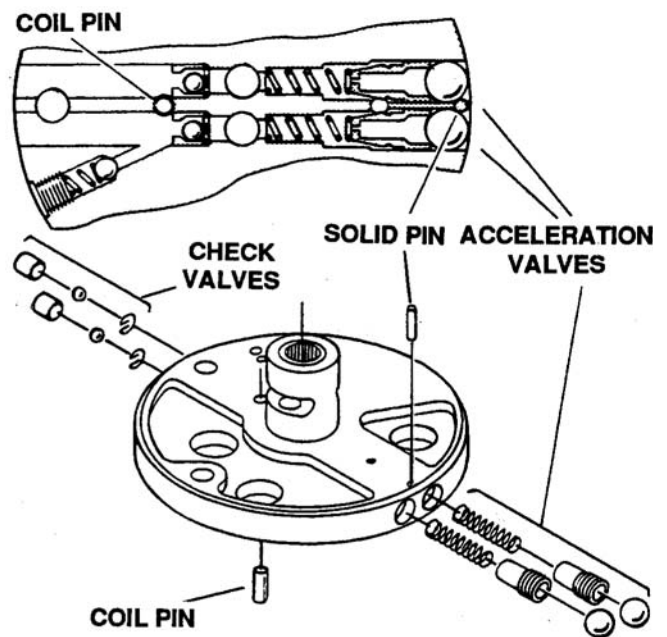
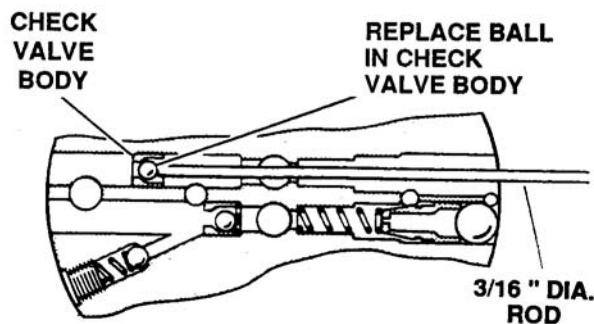

Figure 6-94. Removing Acceleration Valves
Figure 6-97. Driving Check Valve Body and Ball From Pintle Housing
- m. To remove the acceleration valves, start by removing the solid pin from the pintle housing. See Figure 6-94.
- p. Press or drive coil pins from pintle housing. See Figure 6-94. Replace the ball through the port into the check valve body. Place 3/16 inch diameter rod through the acceleration valve body against the check valve ball and drive check valve body and ball from the pintle housing. Repeat this method for the second check valve body. See Figure 6-97.